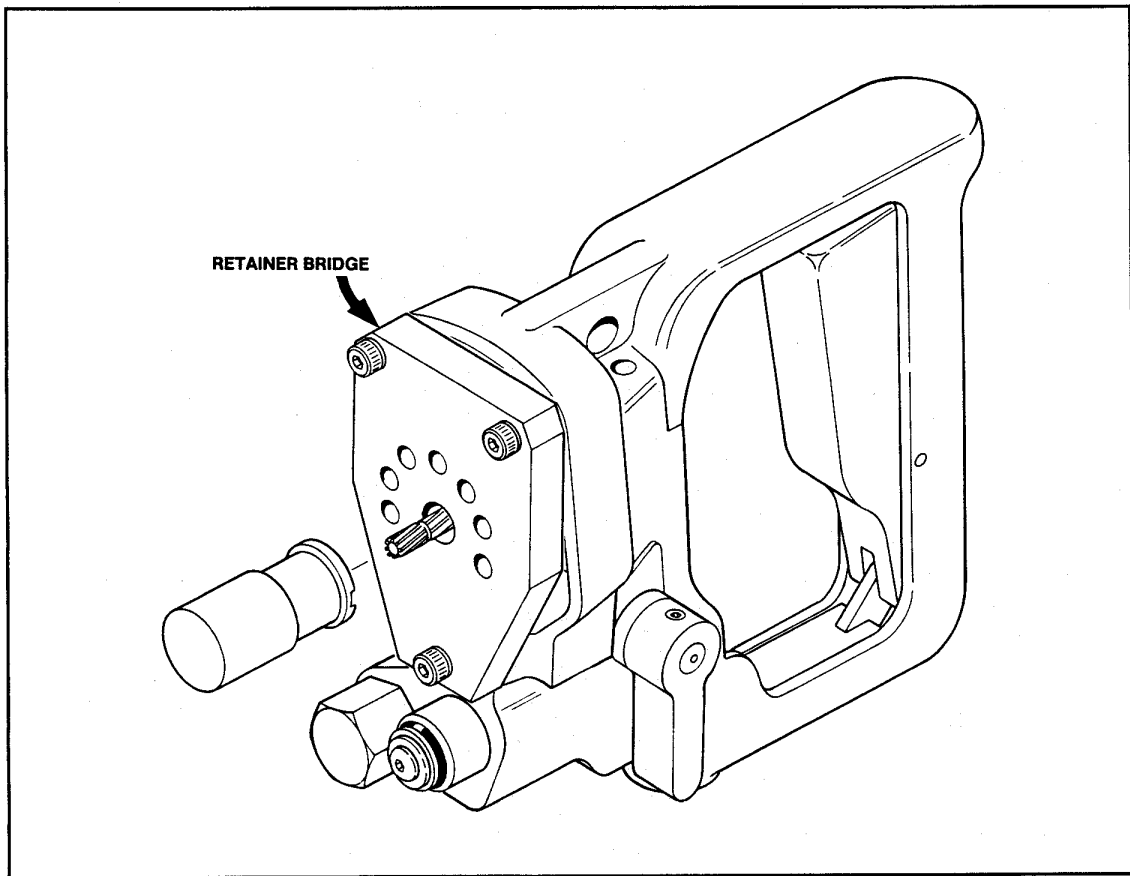

Figure 4. Rear Module with Retainer Bridge
3. Position the retainer bridge (from the service kit) over the rear module's motor shaft and bearing and secure with the hex socket capscrews. (See Figure 4). The rear module can be operated separately only when the retainer bridge is installed.